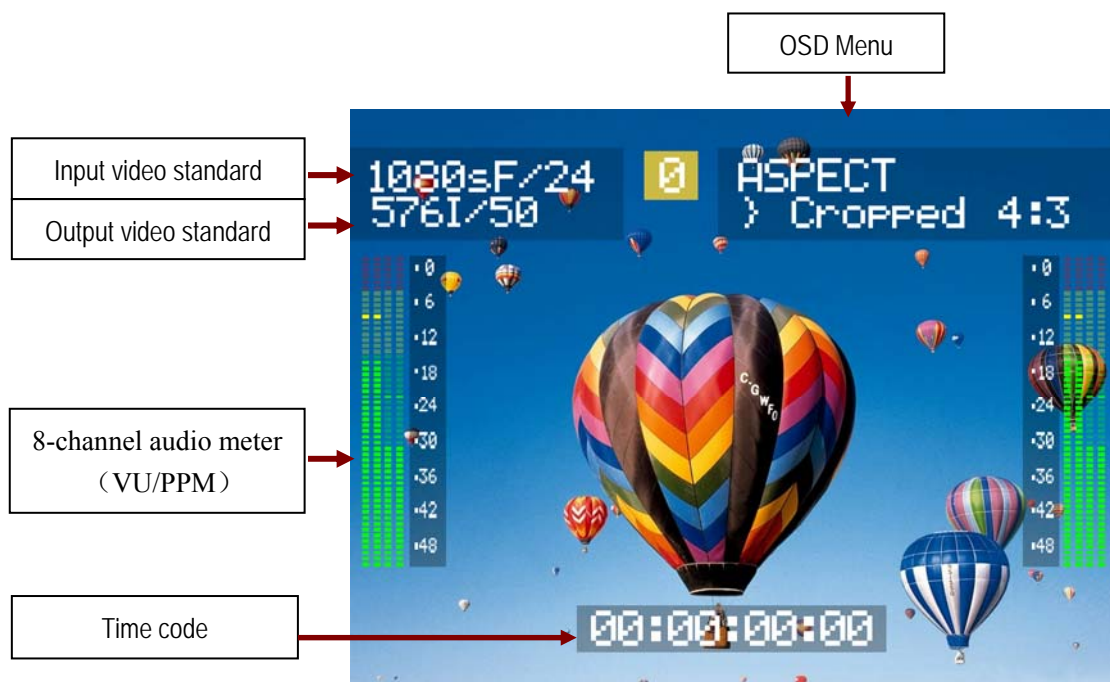

Fig. 1-1 Monitoring Status of HDC6831N
- ✓ Users can add OSD menu, time code, standards of input and output and 8-channel audio meter into video by setting the parameters. For more information, please refer to Fig. 1-1